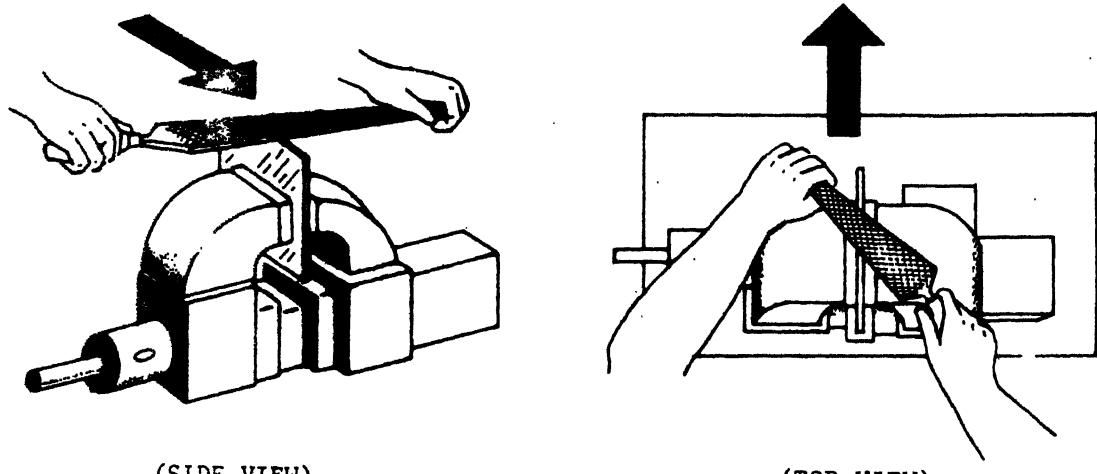

FIGURE 1
- *(1) The file cuts as you push; LIFT UP ON RETURN stroke.
- *(2) DO NOT remove corners at this time. See figure 1.